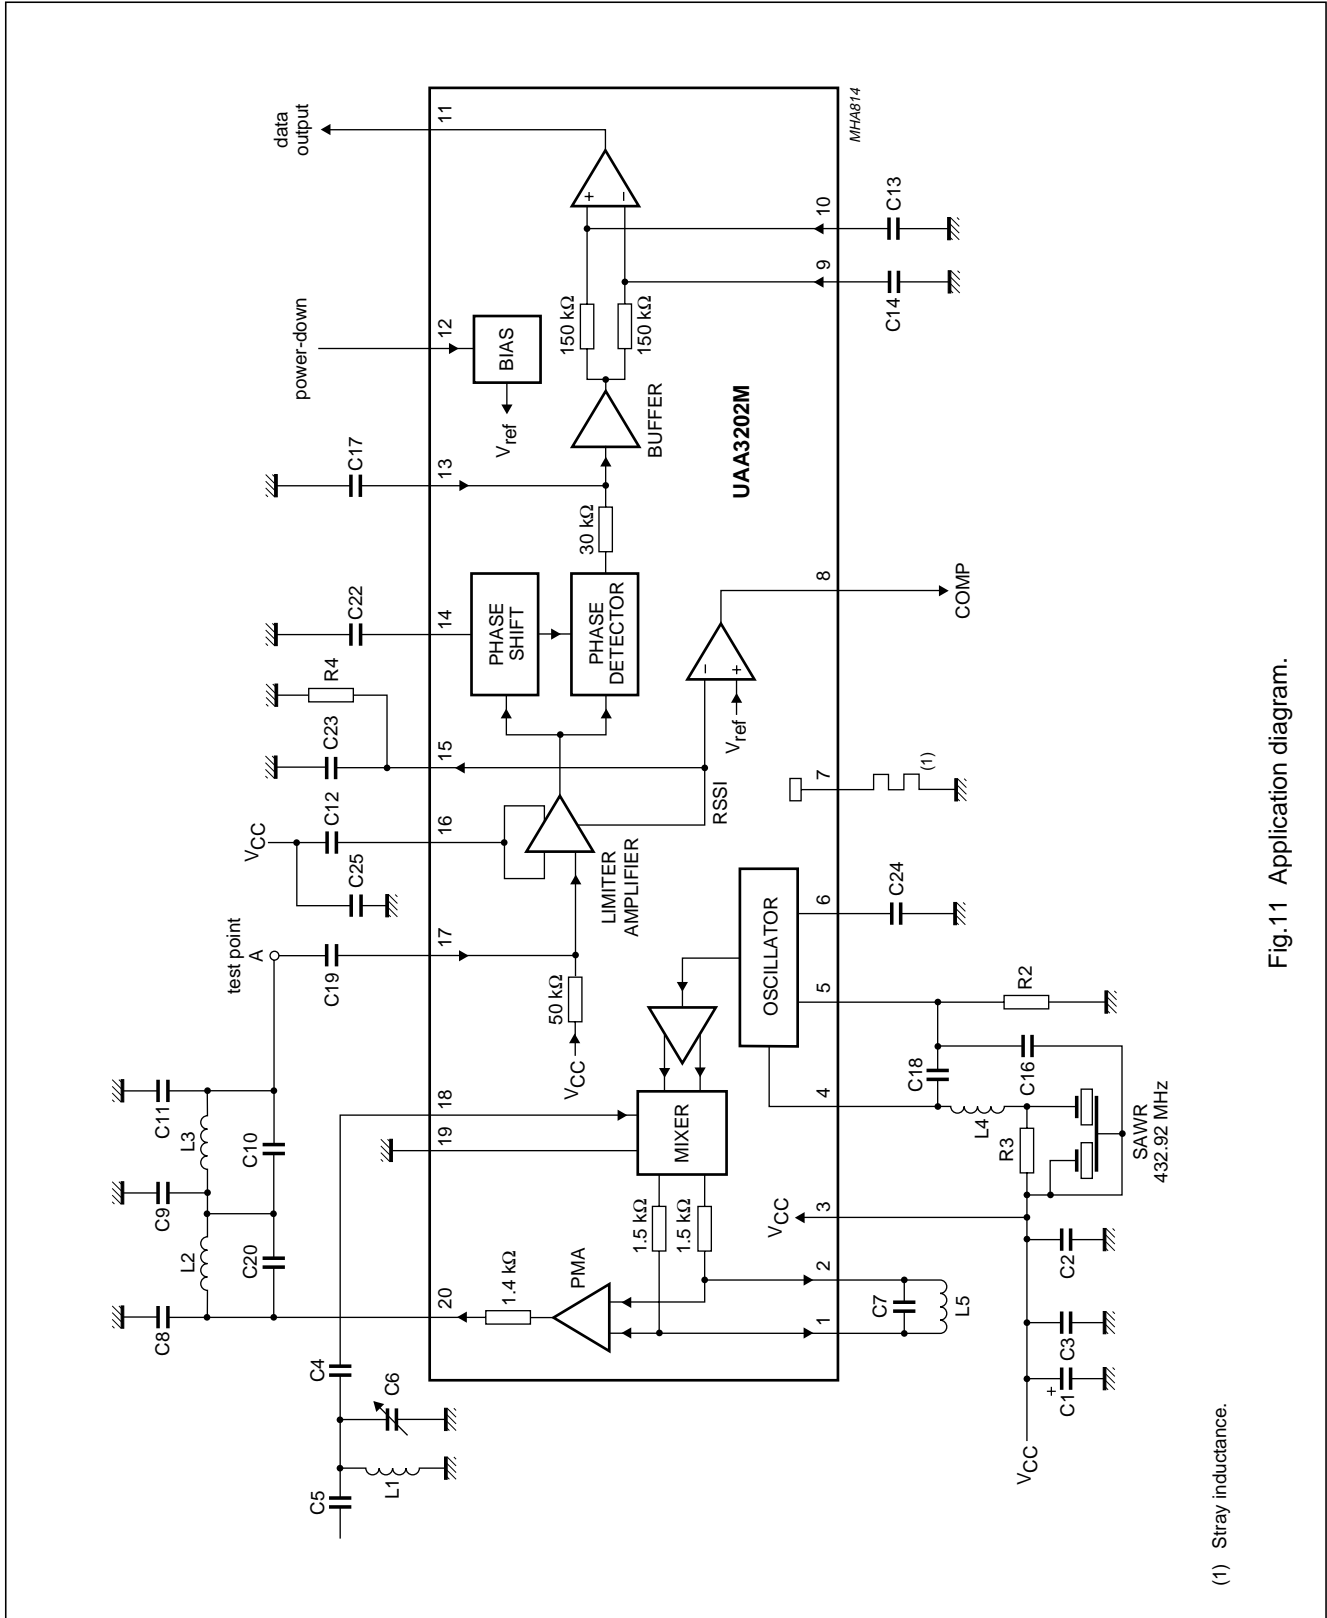

Fig.11 Application diagram.
2. Tune C6 (RF stage input) to obtain a peak voltage on test point A (see Fig.11).
- (1) For test circuit see Fig.11.
Table 4 Application component list for Fig.11